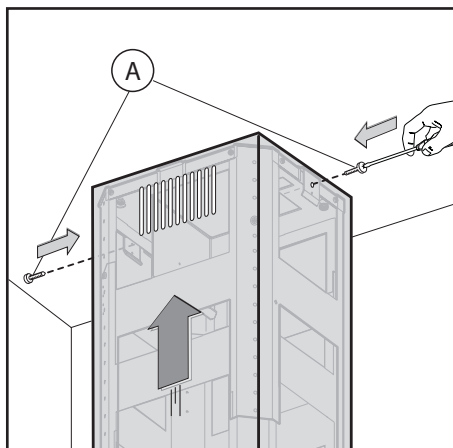

Fig.8
- Take the upper chimney piece and fix it to the structure using the 2 screws **A** (Fig.8). Join the lower chimney piece with the upper one and fix it carefully using adhesive tape **L** (Fig.9A).